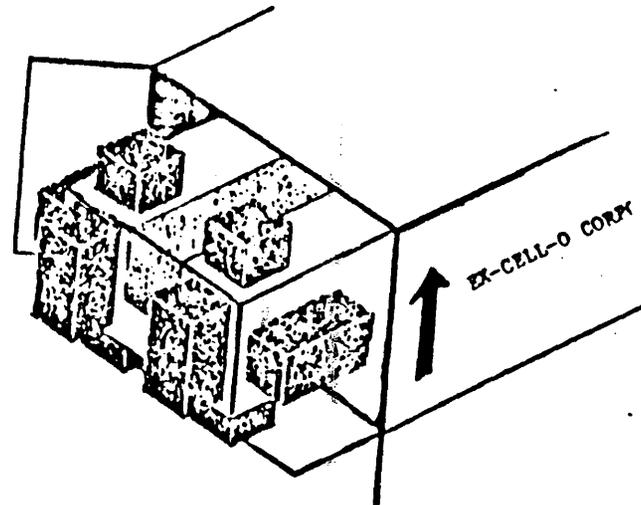

FIGURE 2
3. SLIDE OUT INNER BOX (Figure 2).